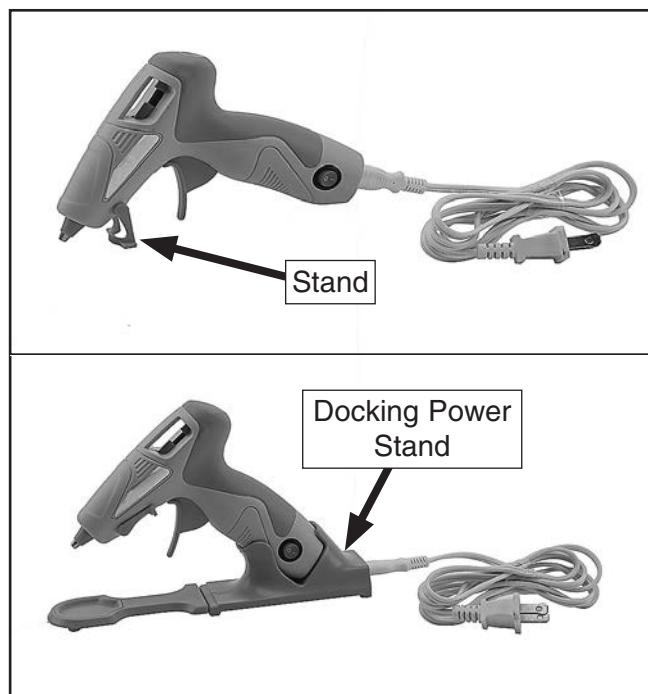

Figure 2. Cord inserted into glue gun or docking power stand.
2. Insert cord into glue gun or docking power stand and insert plug into matching 120V power receptacle. Rest glue gun upright using stand or insert it into docking power stand (see **Figure 2**).